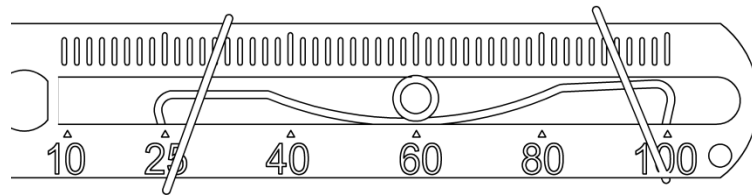

Figure 21. Feedback lever B and driving pin connection
- For feedback lever A, hold the linear stroke mounting bracket⑦ against the actuator. Plug the head of feedback lever⑤ into the U-shaped rod①. For feedback lever B, insert the driving pin⑩ into the fixed spring in the slot of the feedback lever B, as shown in Figure 21. Make the valve main stem and feedback lever are at right angle. If it cannot be at right angle, install according to the actual situation.